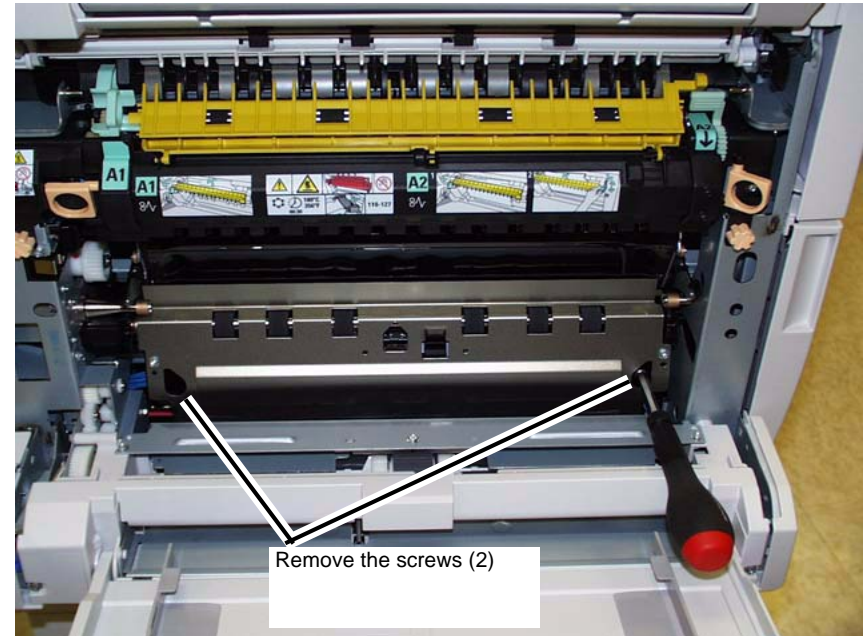

Figure 2 Removing the screws (2)
4. Remove the screws (2). (Figure 2)